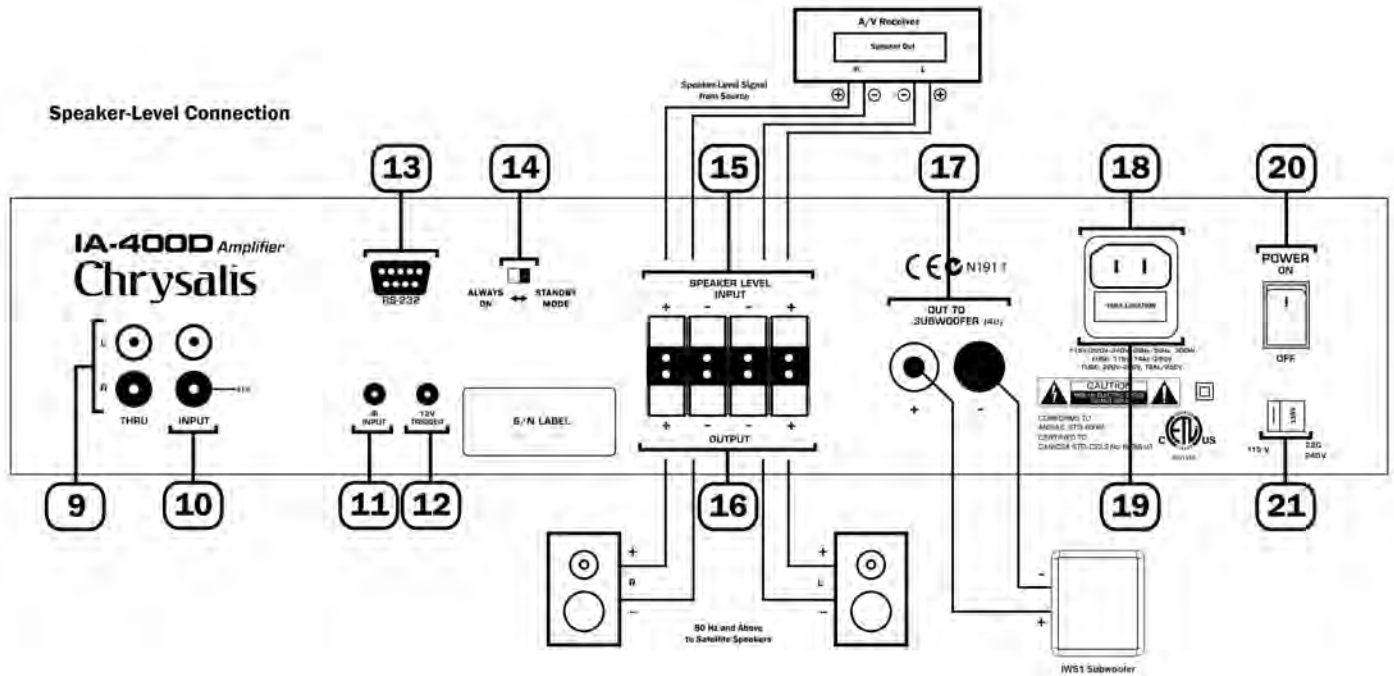

Figure 3: Speaker-Level Connection.
*An example of a speaker-level connection is shown in Figure 3.*